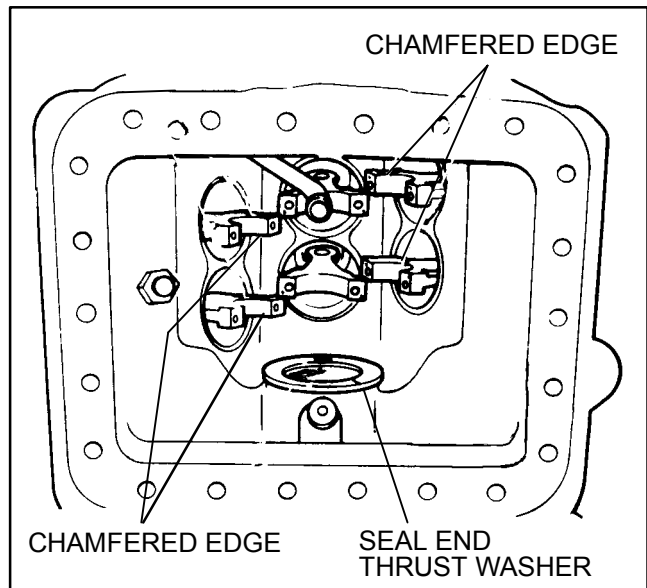

Figure 3-17. Installing Piston Rod Assemblies and Seal End Thrust Washer
- b. Install the piston and rod assemblies up through the bottom of the crankcase and into the cylinders. Allow pistons to extend beyond the top of the cylinder to enable installation of piston rings. Pistons must be installed so that the chamfer, on the connecting rod, faces toward the crankshaft journals. Center rods on each crankshaft throw may be installed in either direction. (See Figure 3-17)
- Install the seal end thrust washer on the dowel pin. (See Figure 3-17) Ensure piston rods are pushed out of the way and install the crankshaft.